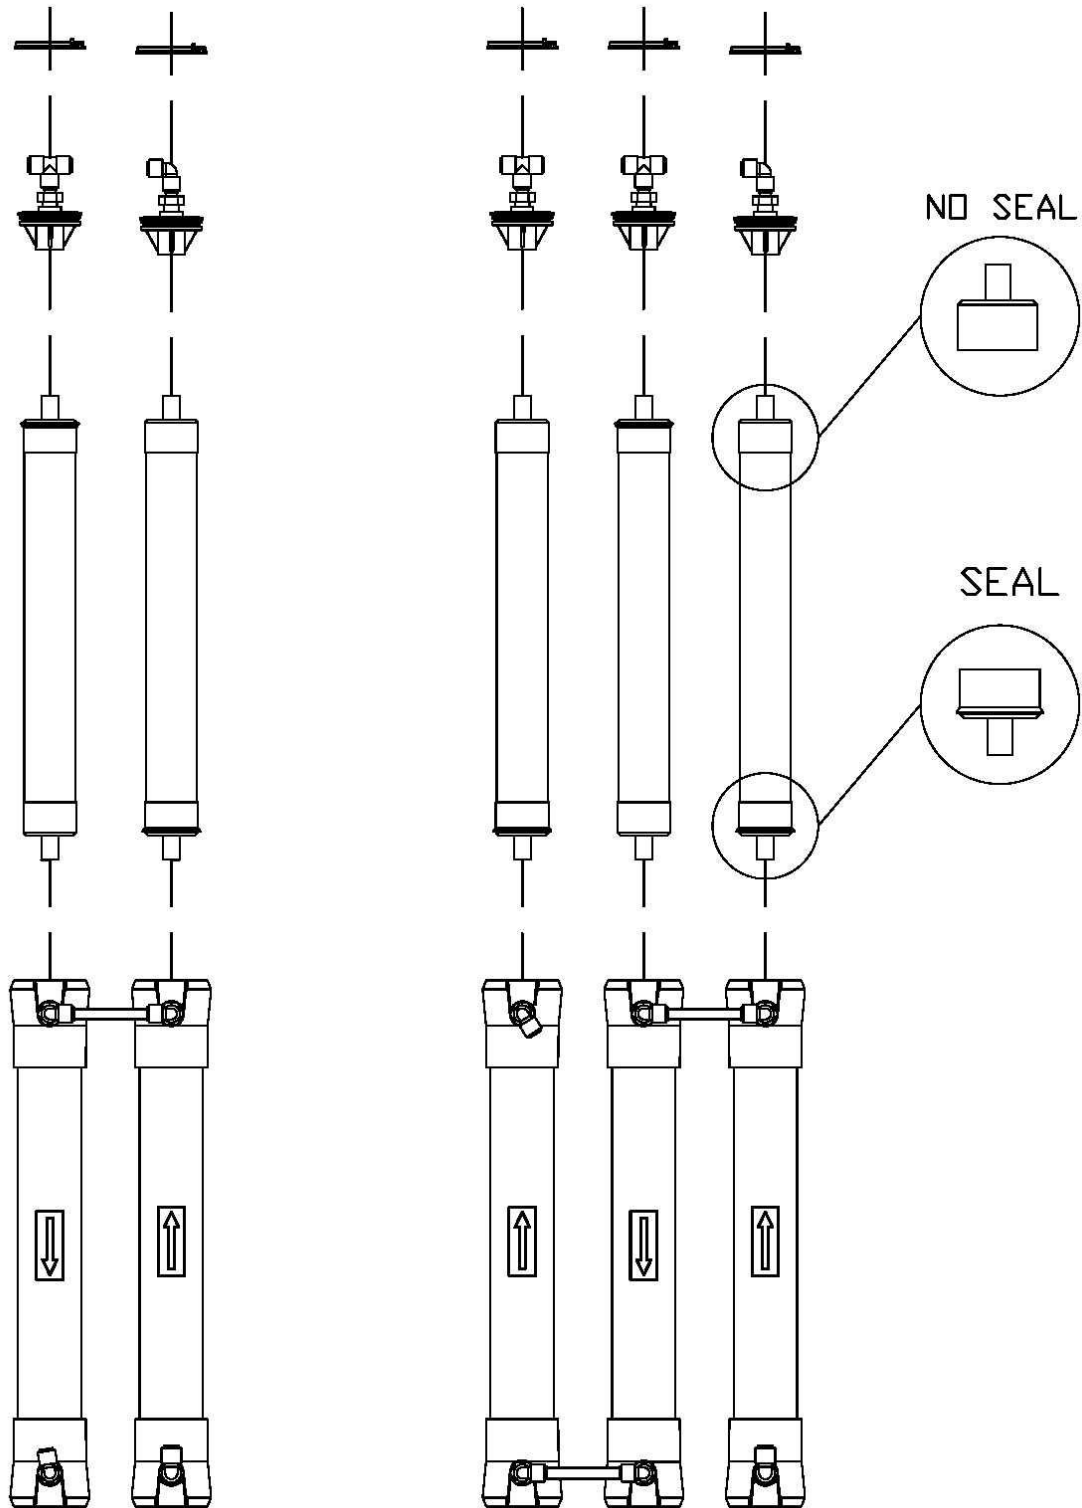

FIGURE 4
5. Flow directions should be observed for installation of each element into each housing. (Figure 4, Page 26)
3. Install the brine seal side of the membrane element first (Figure 4, Page 26). When the housings have a direction of flow from bottom to top, the brine seal should be located at the bottom of the housing.